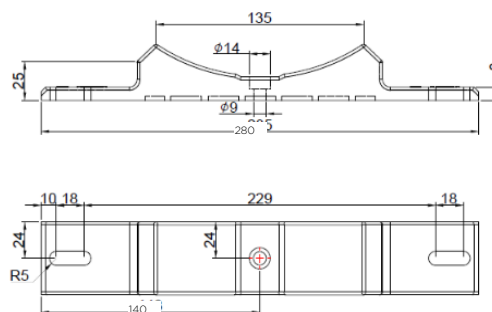

Fig. 18. Module Tube Bracket
2. Fixing belt installation: Drill two Ø10-mm holes on the skid frame (see Fig. 18). Install the fixing belt with an M8 bolt (optional 90-mm bolt is supplied by MANN+HUMMEL).